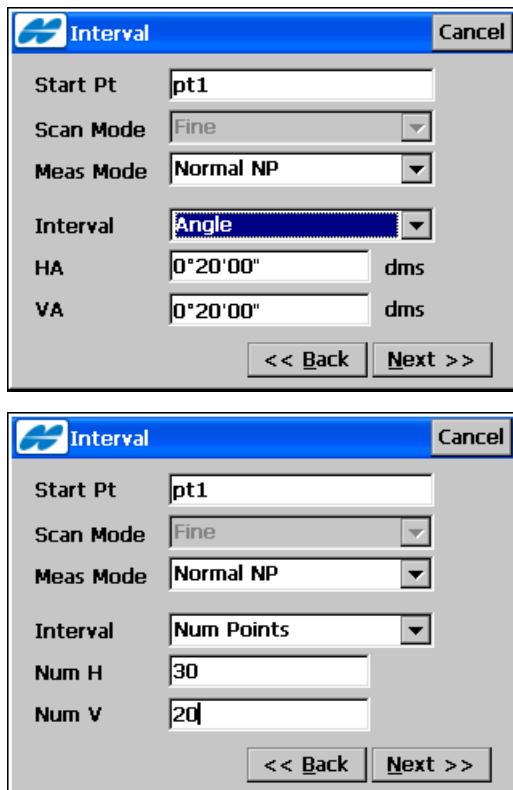

Figure 9-39. Scanning Interval
- **Next** – press to begin the scan when the areas are set; the *Interval* screen (Figure 9-39 on page 9-40) opens first to set the scanning settings.
The ***Interval*** screen (Figure 9-39) sets the starting point and the horizontal and vertical intervals for scanning.